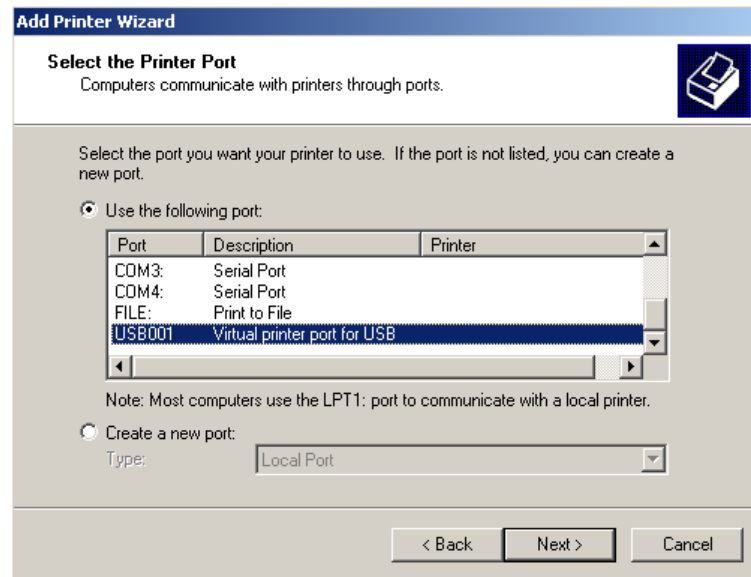

Figure 3-42 Select Printer Port
9.) Select the corresponding Printer Port (e.g., Figure 3-42 = USB001) and click NEXT.